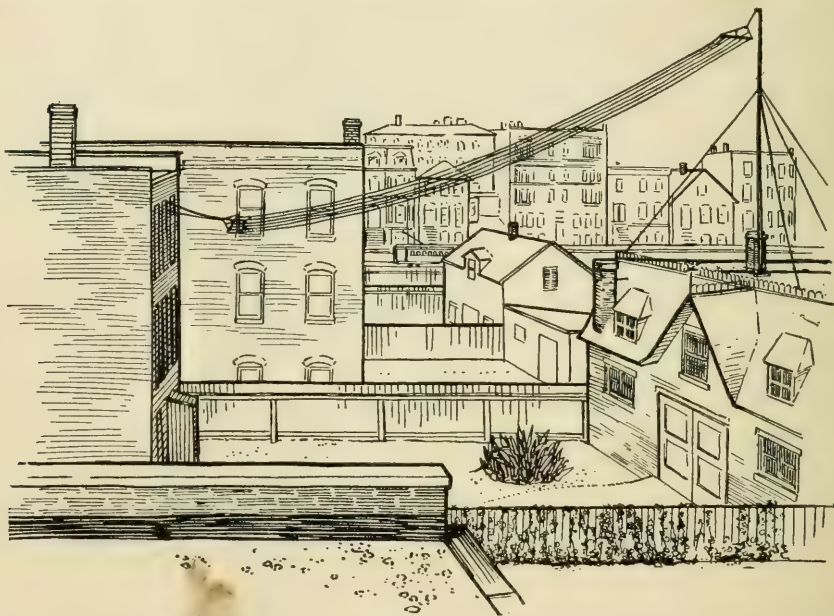

FIG. 301. — The Length of the Aërial Mast can be reduced by erecting it upon a Roof. Use Two Masts if One End cannot be supported as Above.
slats are obtained when it is supported horizontally or slatting between two supports (Fig. 301). A very satisfactory aërial is one which is 70 or 80 feet long and 50
feet or more high. With such an aërial and the instruments described upon the following pages receiving can be accomplished within a radius of several hundred miles. Of course the dimensions of the aërial will necessarily depend upon the character of the place, and if the masts are erected upon the housetop or the roof of a shed, the height can be obtained with shorter material (Fig. 301).
**The Masts** which support the aërial should be equipped with pulleys, like rigging a flagpole, so that the aërial may be hoisted or lowered at any time for repairs. Clothes-line pulleys such as are shown in Fig. 208 (page 171) and a stout hemp clothes-line may be used for the rigging. The poles must, of course, be braced very strongly with wire stays (Fig. 301), and it is a good idea to set in *turnbuckles* (see *H* and *I*, Fig. 212, page 174) so that the stays may be kept taut. If one end of the aërial can be run down to the house and fastened to the window-frame, as in Fig. 301, of course only one mast will be necessary.